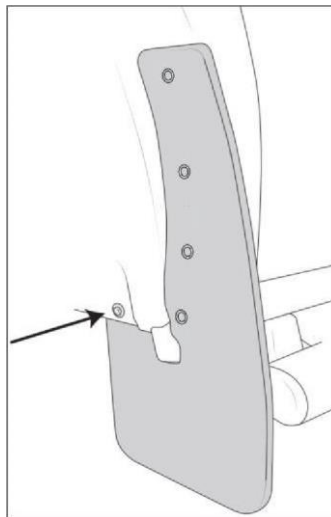

Figure 7
7. Insert an M6 x 35mm bolt with M6 x 18mm washer through the liner and guard and secure with another M6 x 18mm washer and M6 hex nut behind the Splash Guard and wire bracket (Fig. 7). Torque ONLY THIS BOLT to 5 ft-lbs/60 in-lbs. DO NOT USE POWER TOOLS.